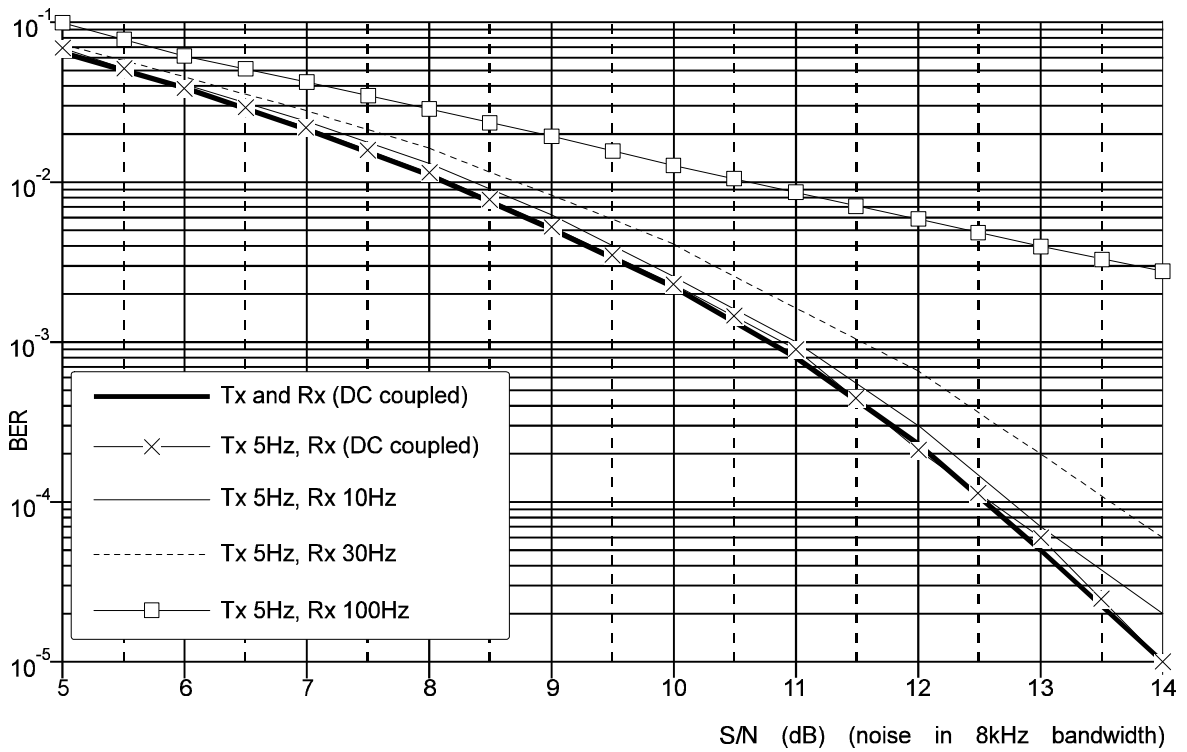

Figure 10 Effect of AC Coupling on Typical Bit Error Rate (8000 bits/sec, BT = 0.3)
- a) AC coupling of the signal will degrade the FX579's bit error rate (BER) performance, as shown in Figure 10 for a data rate of 8kbits/sec, with $V_{DD} = 5V$ and $BT = 0.3$.